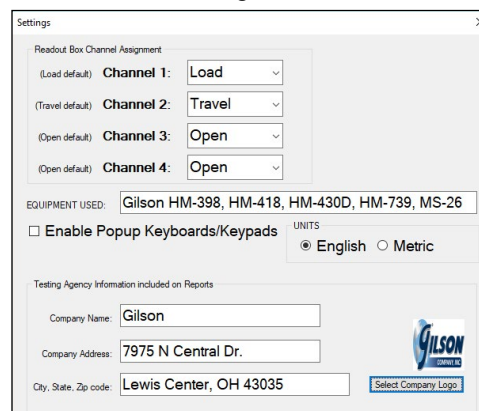

Figure 6: Program settings
2. Complete the fields in the **Project/Sample Info** tile (Figure 6), then click **Set New File**. You can then select where the file is automatically saved at the completion of the test. Files can be saved locally or on a network.